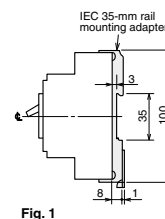

Fig. 1
- ③ The power supply module has a built-in switching power supply. Therefore, it may interfere with communication devices near the module. In such a case, install a noise filter on the input side.
- ④ For the automatic reset type, purchase a circuit breaker with alarm switch (for minute load), and connect the signal circuit (among the terminal numbers S1, S2 and S4) as shown in Fig. 1.